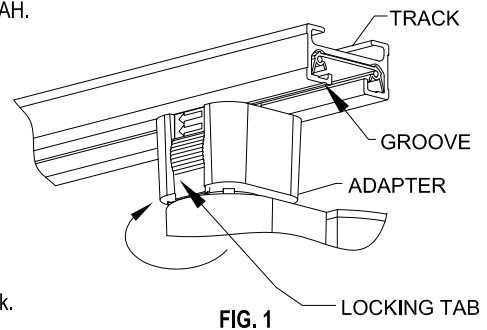

FIG. 1
2. Insert luminaire into TRACK as shown in FIG. 1. Arrows on ADAPTER on GROOVE side of track.